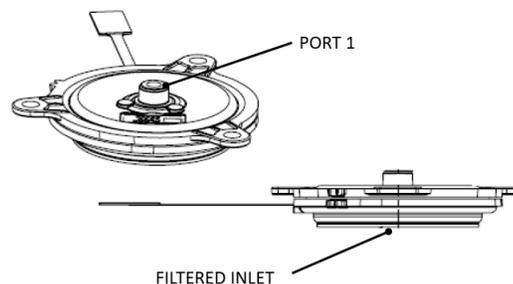

Figure 11. US Series pumps - port numbering
- Port 1 is the outlet – This product is designed for axial seal with a manifold block on the discharge port. While it is not intended for direct connection to tubing, it can be adapted to use standard tubing for evaluation with the US connector in the kit as shown in Figure 11.